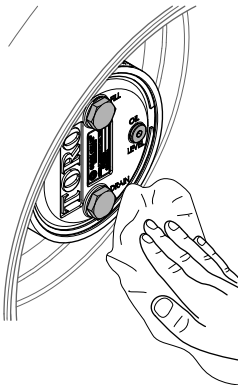

Figure 77
3. Wipe clean the planetary and brake housings (Figure 77).